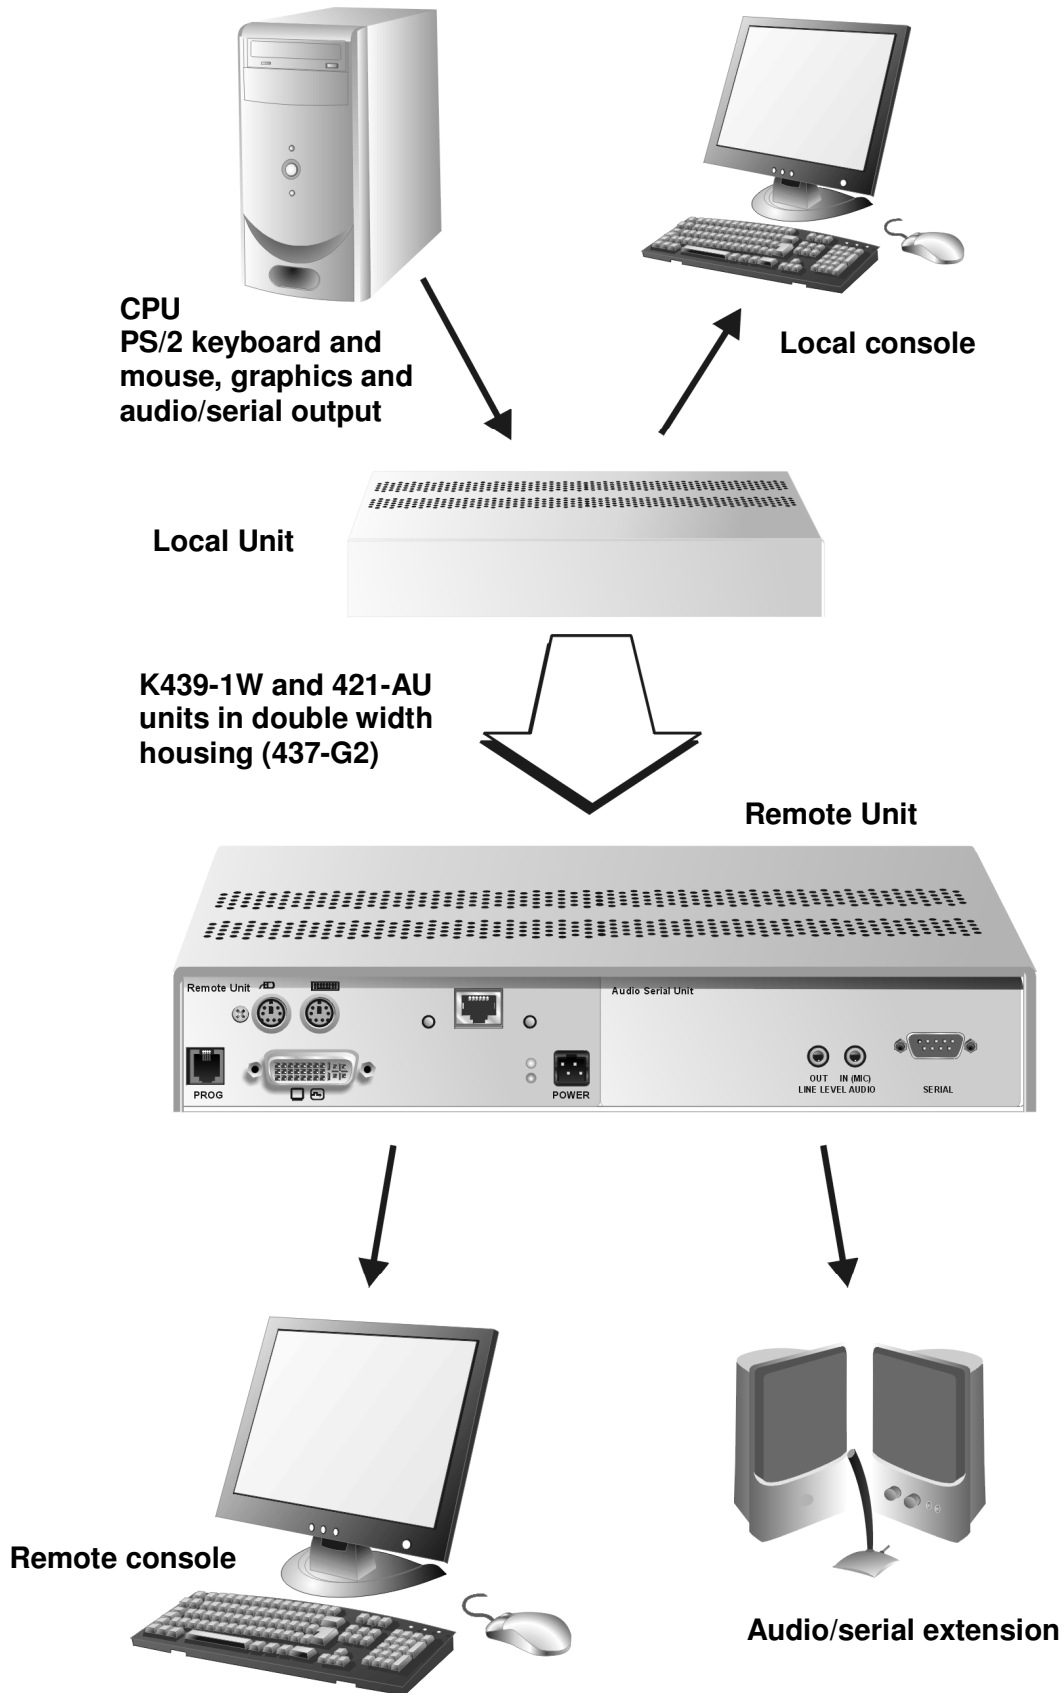

Figure 23 CATx application with local access and audio/serial extension
- CATx with audio/serial support in dual wide housing (Figure 23).